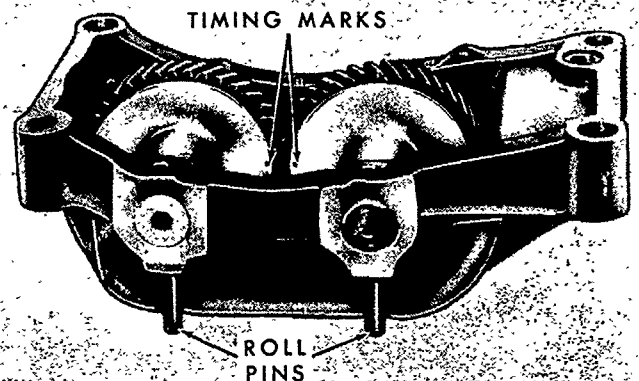

Figure 61
4. Drive out the pins in the balancer shaft, Figure 61.
1. Position the two balancer gears into the housing. Be sure the gears are in the position shown in Figure 61, with the timing marks aligned. The timing marks should be facing the roll pin end of the balancer housing.
3. Drive the two pins, Figure 61, through the housing and shafts to secure the shafts.